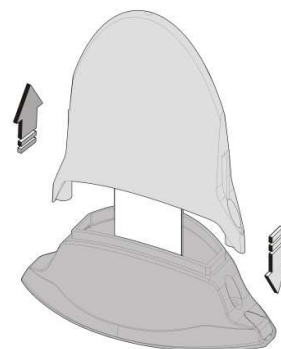

Figure 6.3 – Removal and Attachment of the SFL Top Cover
- Close the top cover of your device. (See also: *Installation Figure 6.3*)